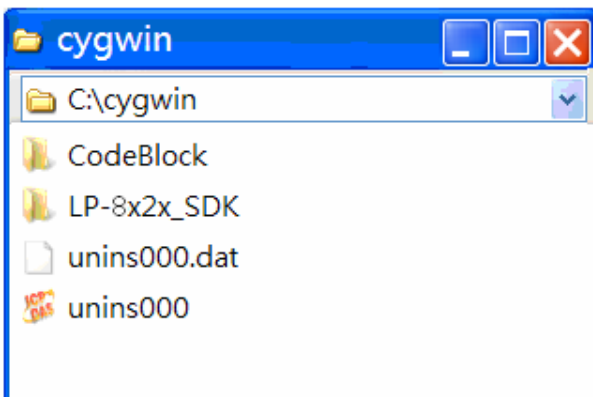
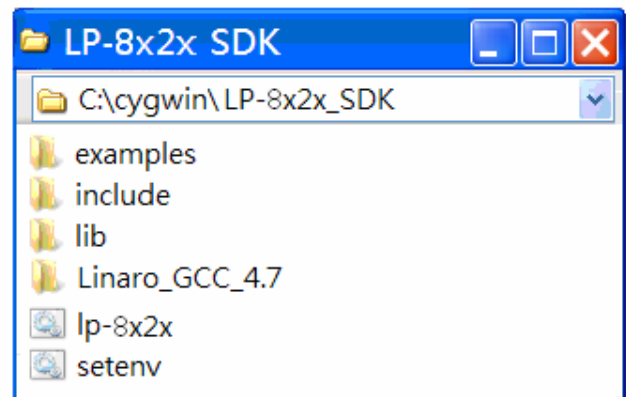

Fig. 2-14
Fig. 2-15
7. Open the LP-8x21 SDK installation directory, the default data directory location is “C:\cygwin”, user can see the contents of folder. Refer to Fig 2-14 and Fig 2-15.